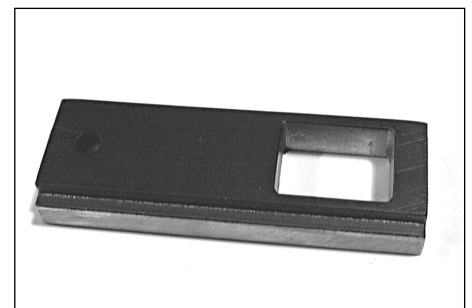

FIG 198
b) If the small powder bar is currently installed – remove both the small powder bar and small powder bar spacer FIG 198. Note: The purpose of the spacer is simply to make up for the room allowed for the large powder bar.